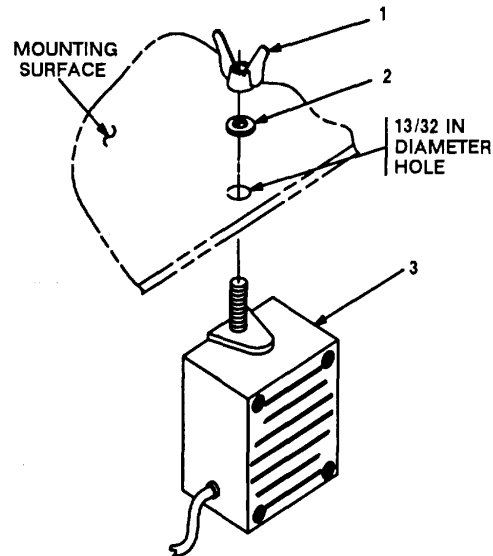

Figure 5-7 (1). Speaker Installation - A
**Method A.** See figure 5-7 (1).
- a. Determine speaker (3) location.
- c. Insert stud on speaker (3) through drilled hole; then secure with lock washer (2) and wing nut (1).
**Method B.** See figure 5-7 (2).